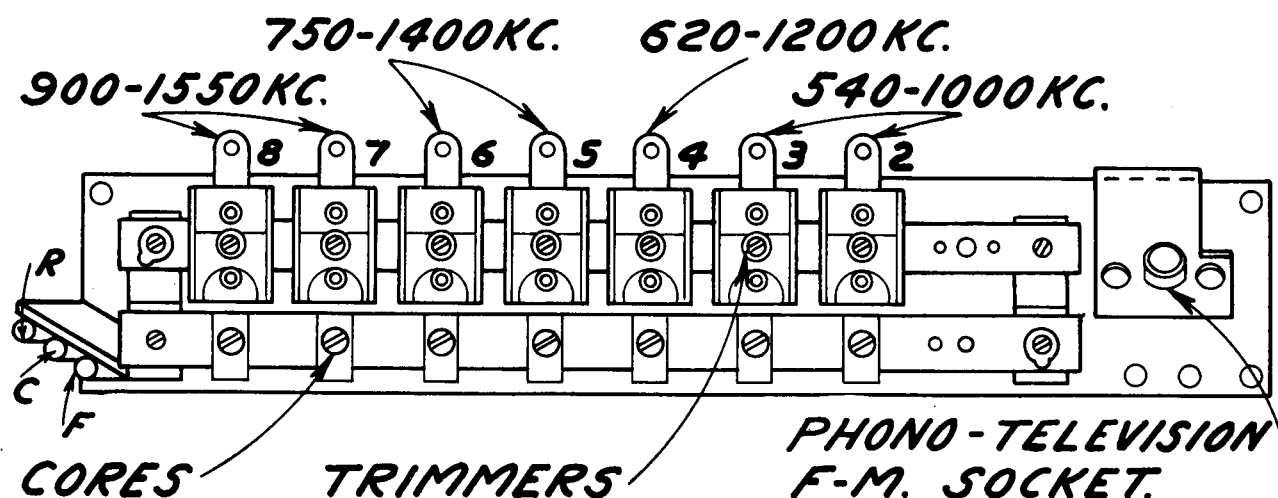

Fig. 4
(1) Turn "Range selector" to "A" position and manually tune in the first station, say 560 k.c.
(2) Turn "Range selector" to "P.B." position, press button No. 2 located second from left on front panel.
(3) Referring to Figure 4, adjust core and padder No. 2 for a peak at 560 k.c. This adjustment can be made with the assistance of the "Magic Eye".
(4) Proceed to adjust the other six stations in order of frequency, as outlined above.